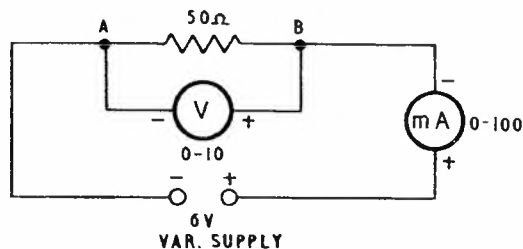

FIG. 1.
STEP 1. Connect the circuit as shown in Fig. 1.
STEP 5. Disconnect the 50Ω resistor, and connect the unknown resistor between terminals A and B (Fig. 1).